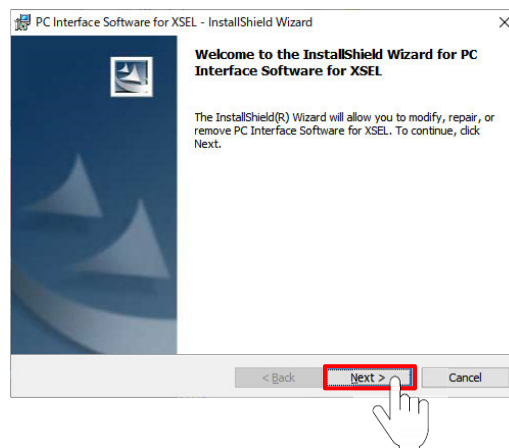

Fig. 1.8 InstallShield wizard window for XSEL PC software
- 6) InstallShield wizard window for XSEL PC software (Fig. 1.8) will be displayed. Click **Next**.